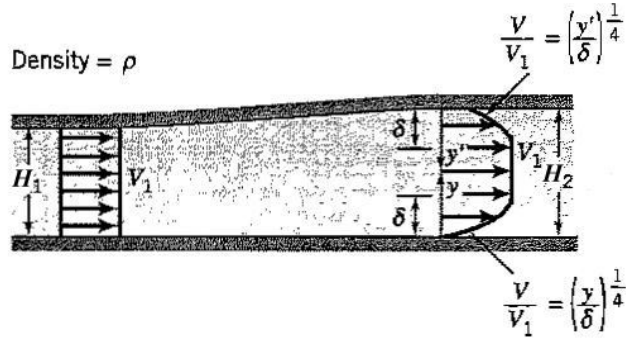

Figure P3.37
3.37 Air of constant density ρ enters a duct of width W and height H_1 with a uniform velocity V_1 . The top wall diverges (as shown in Figure P3.37) so that the pressure remains uniform everywhere. Downstream, on the top and bottom wall, the velocity profiles are given by $V/V_1 = (y/\delta)^{1/4}$. Given that $H_2 = 1.1H_1$, find δ in terms of H_1 , and find the magnitude and direction of the force F exerted by the air on the duct in terms of a nondimensional force coefficient $F/\rho V_1^2 H_1 W$ (ignore viscous stresses).